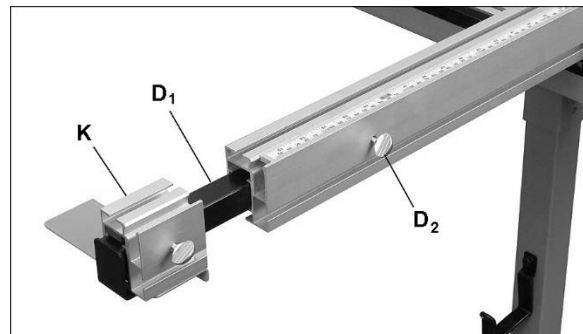

Figure 7-26
8. Pull fence extension (D₁, Figure 7-26) all the way out of fence. Install stop assembly (K) onto extension from opposite end.
- Slide fence extension and stop (see K, Figure 7-26) out of fence.